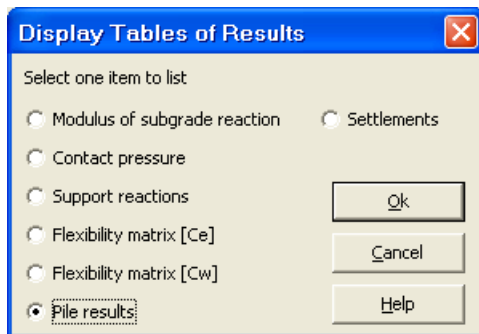

Figure 11-41 "Display tables of results" option box
- Choose "Display tables of results" command from "List" menu. The following option box in Figure 11-41 appears